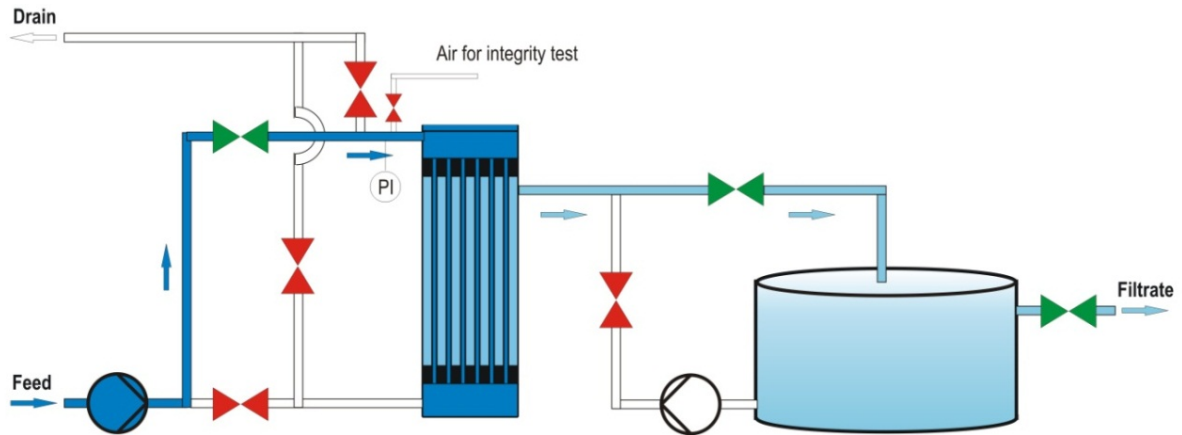
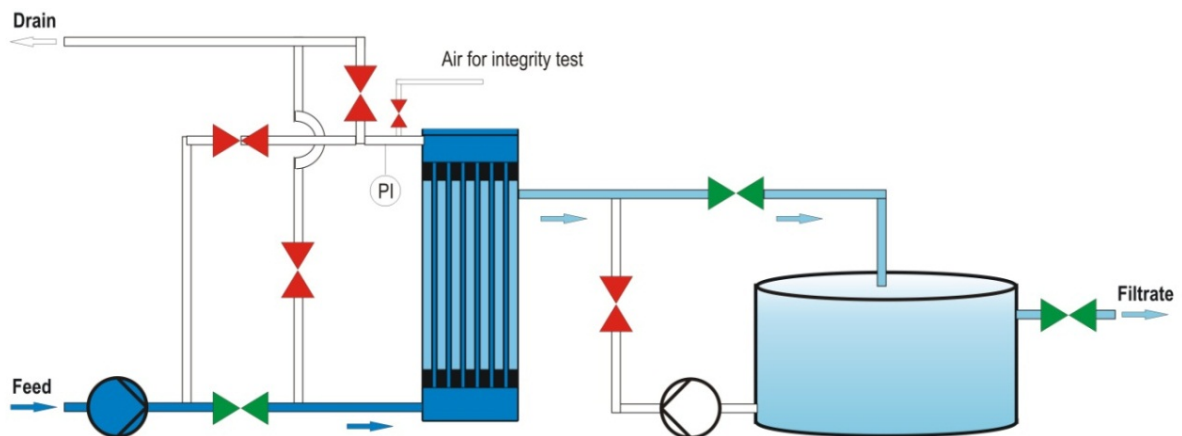

Figure 3-1: Filtration Top (FT) mode
Figure 3-2: Filtration Bottom (FB) mode
The diagrams below show the two operating modes "Filtration Top" and "Filtration Bottom" in dead-end mode. Figure 3-1 shows filtration being performed from top-to-bottom (FT) with the source-water being fed into the top of the module, while Figure 3-2 shows filtration being performed from bottom-to-top (FB) with the source-water being fed into the bottom of the module.